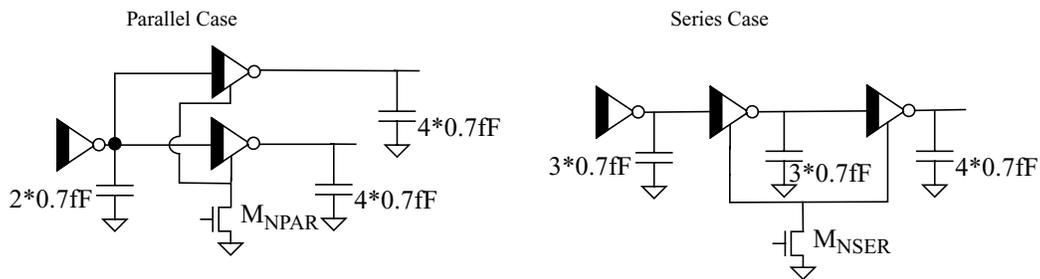

Figure 2: Sizing Sleep Devices for Parallel and Series Inverters
b) Refer to Figure 2. Use HSPICE to size M_{NSER} and M_{NPAR} for both cases to achieve 5% and 10% delay degradation over the *appropriate* base case. Turn in ONLY the following: